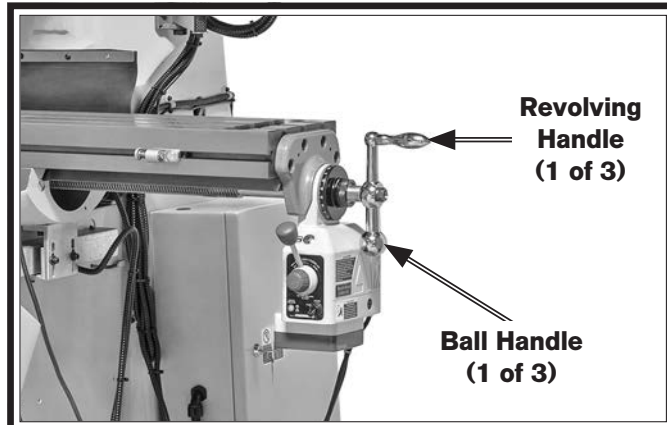

Figure 18. Revolving handle installed in ball handle.
3. Thread (1) revolving handle (see **Figure 18**) into small end of each ball handle and tighten to secure.